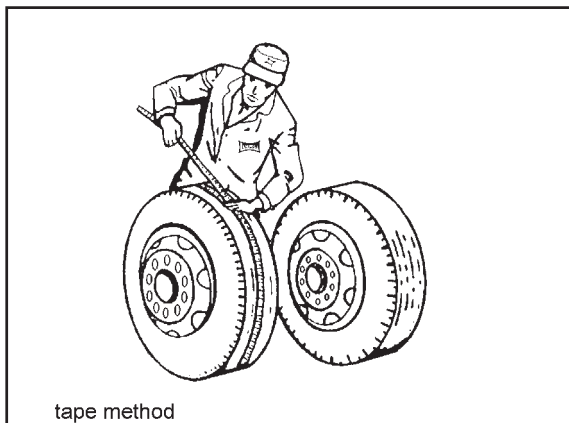

Fig. 4-15 Measuring Tape Method
- a. **Tape Measuring Method:** Measure around each tire on the tread surface. A maximum difference of 3/4" is allowed between the two mating tires of a dual (**See Figure 4-15**).